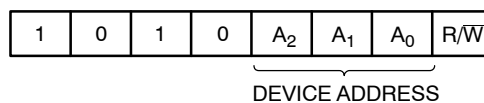

Figure 3. Slave Address Bits
The Master addresses a Slave by creating a START condition and then broadcasting an 8-bit Slave address. For the CAV24C64, the first four bits of the Slave address are set to 1010 (Ah); the next three bits, A2, A1 and A0, must match the logic state of the similarly named input pins. The R/ $\overline{W}$  bit tells the Slave whether the Master intends to read (1) or write (0) data (Figure 3).